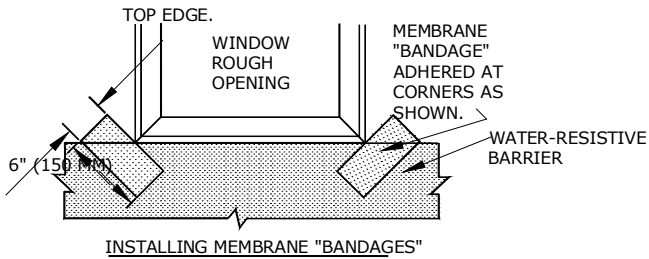

Fig 11.1
- Cut and staple a 12" (30cm) wide strip of Tyvek® StuccoWrap™ or code-approved water resistant barrier in line with bottom edge of the rough opening extending past jams approximately 12" (30cm) on each side. Staple top edge only (Fig. 11.1).
- Cut self-adhering flashing membrane to approximately 4 in. (10cm) x 6 in. (15cm). Remove backer paper and install diagonally at sill corners (Fig. 11.1).